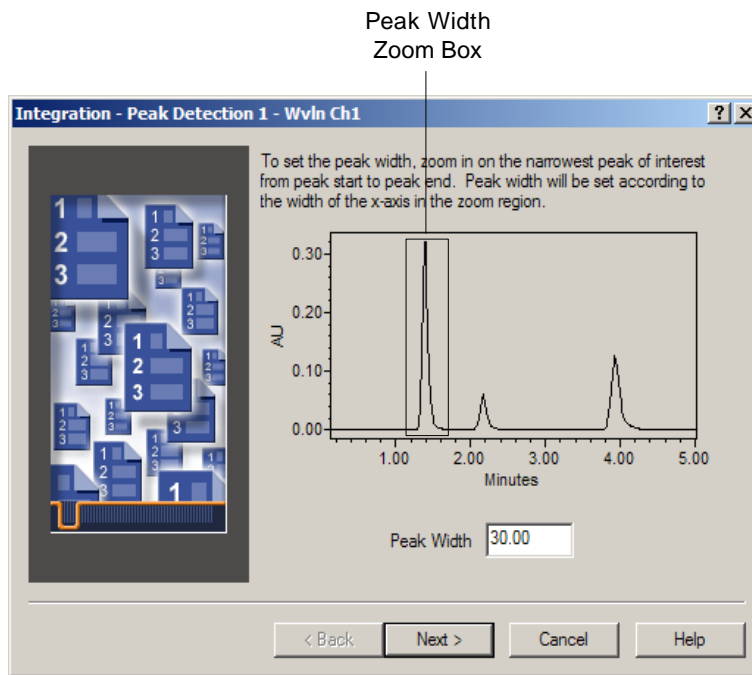

Figure 4-16 Integration - Peak Detection 1 Page, Full View
4. From the Processing Type list, select **PDA**. If the Integration Algorithm list is present, select **Traditional**. Make sure the **Use Processing Method Wizard** check box is selected, then click **OK** to go to the Integration - Peak Detection 1 page (Figure 4-16).